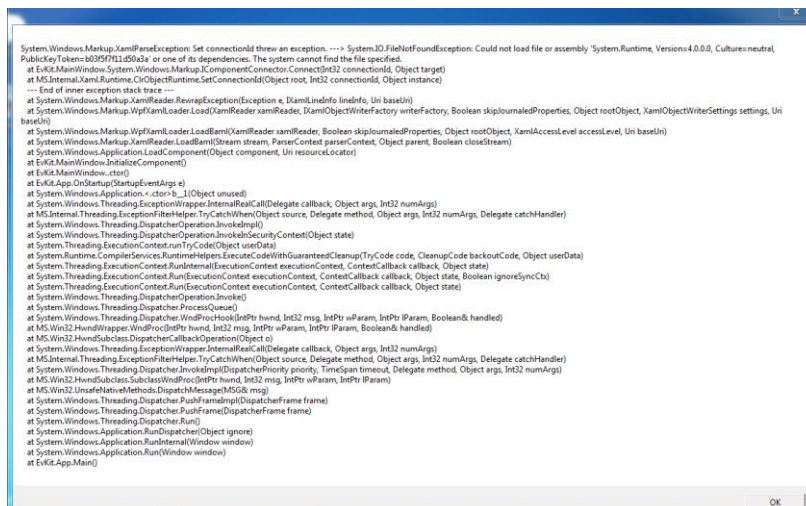

Figure 34. A Windows error message which indicates that Windows .NET installation is out-of-date.
- If an error message shown in Figure 34 appears, the Windows .NET installation is not up to date. Please run Windows update or install the required .Net version manually to resolve the issue.